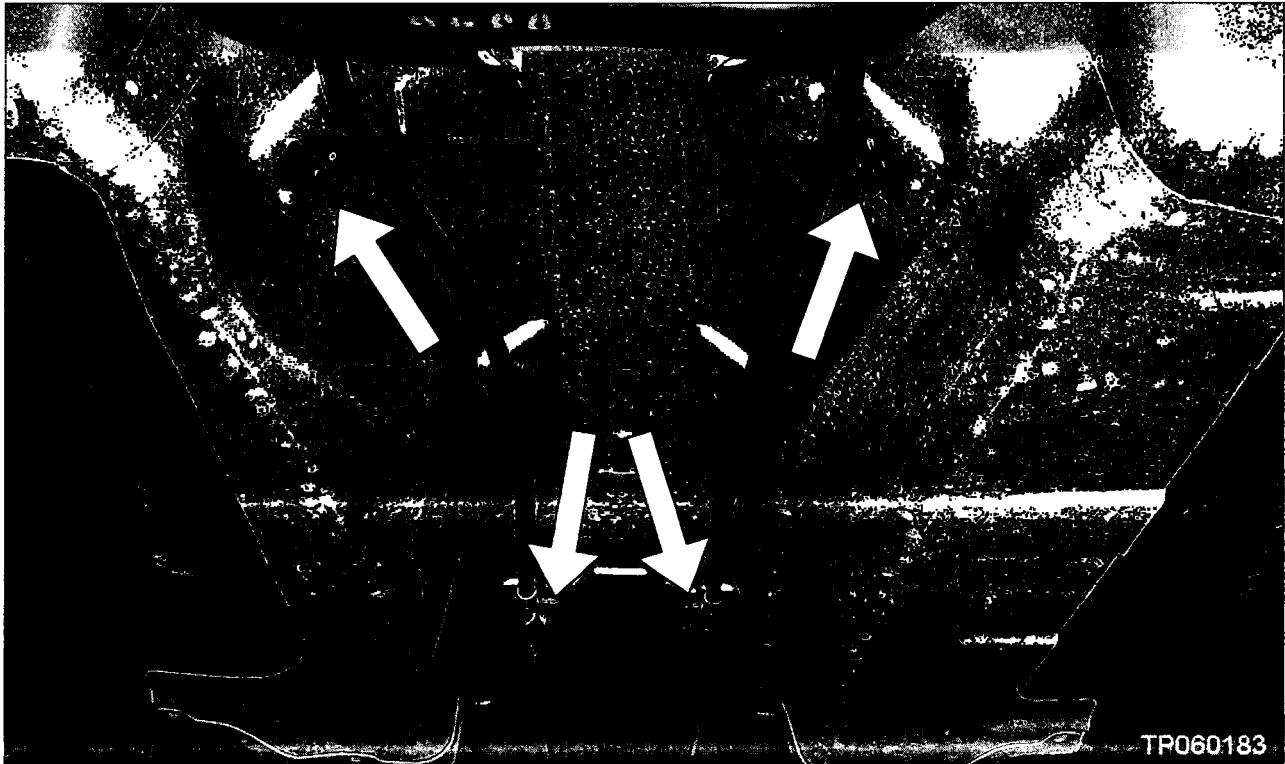

Figure 48
1. Remove the parking brake cable nuts shown in Figure 48.